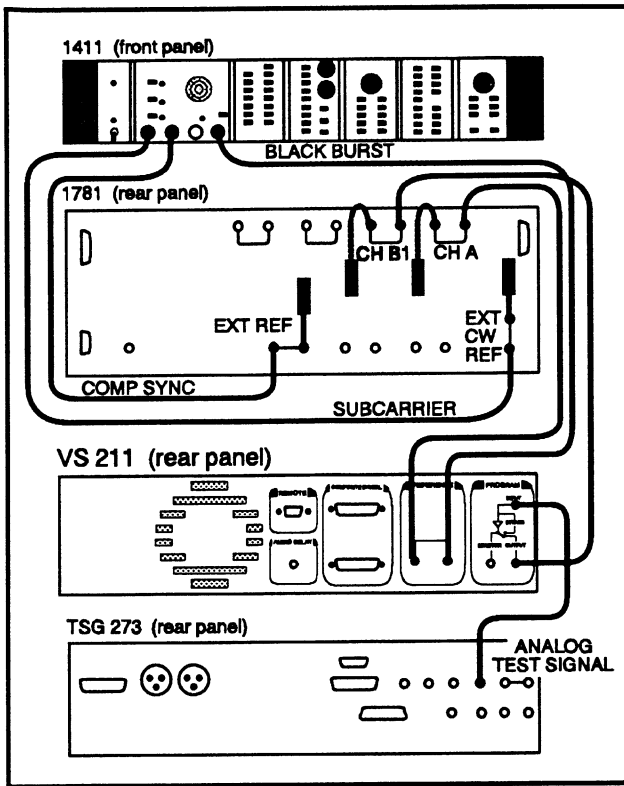

Fig. 4-4.
- a. Connect the test equipment as shown in Fig. 4-4.